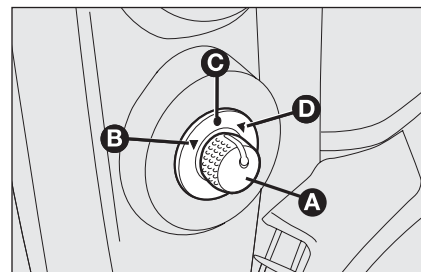

fig. 40
- ☐ use the diverter **A**-fig. 40 to select the desired mirror (right or left hand):